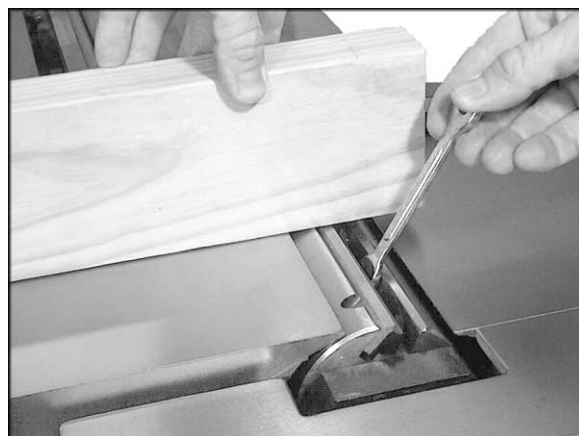

Figure 32
15. Use the edge of a board to push the knife back down so that it is flush against the jack screws. See Figure 32. Tighten the gib screws only enough to keep the knife in position in the cutterhead. Do not fully tighten.